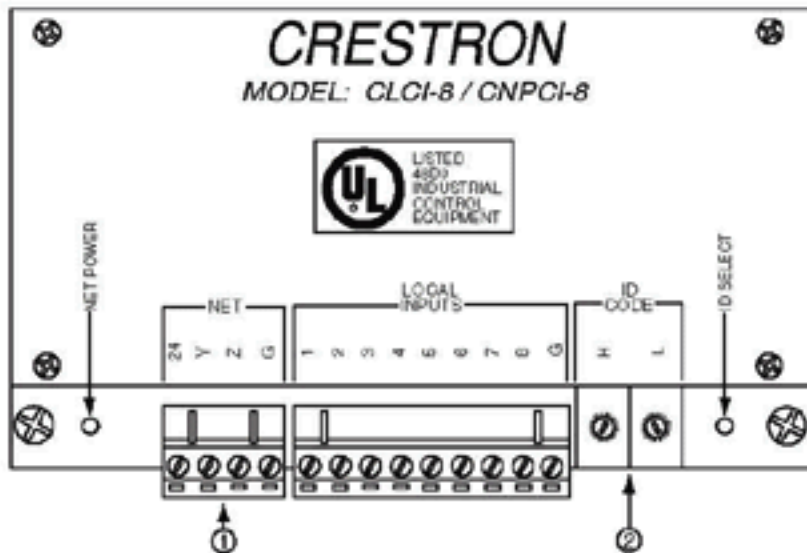

Figure 1
- ① Mount the Control Processor in a safe location, with access to standard 110-120V AC.
- ② The Touch Panel should be flush-mounted (4½" x 4½" box) and wired as indicated in wiring diagrams on page 4. The Touch Panel should be in clear view of the equipment being operated, but should also be in a location that will minimize the chance of damage.
- ③ Mount Relay Panel (s) in locations as desired. Draper suggests placing these panels in locations that will minimize the high voltage wire runs.
- ④ Set Network I.D. for each relay panel as shown at Point 2 in Figure 1. Turning dial "H" sets the first digit of the network I.D. and turning dial "L" sets the second digit. Each relay panel must have the correct Network I.D. or your system will not function properly. The Network I.D. is indicated on project specific Relay Panel Worksheets that are supplied with the product shipment.
- ⑤ Equipment to be operated should be connected to the relays as indicated on project specific Relay Panel Worksheets that are supplied with the product shipment. Be sure to remove the metal jumpers that are installed between the two poles of each relay. Draper's suggested wiring for each type of equipment is shown in the wiring diagrams found on page 4. However, if simultaneous operation of multiple items is not desired, the same hot circuit can be used for more than one piece of equipment.
- ⑥ Connect low voltage control wire to Point 1 on Fig. 1. Wire sizes and connections should be as shown on the wiring diagrams on page 4.